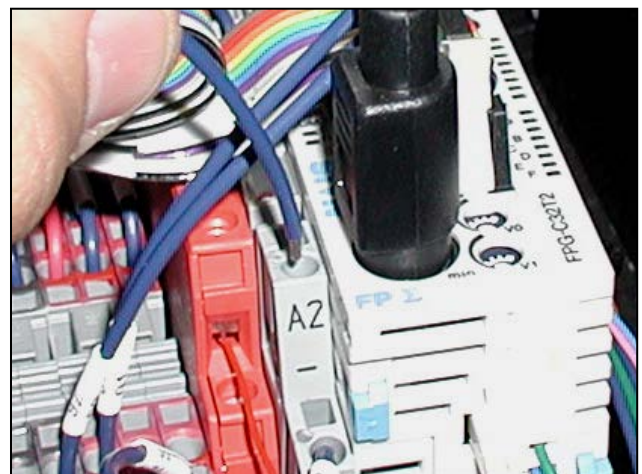

Figure 3-106. Using a jumper on A2-
5. Insert a piece of jumper wire into the 92 (Black) Terminal block. Contact the other end to A2- (Figure 3-106). If red LED does not illuminate check the wiring of A1+